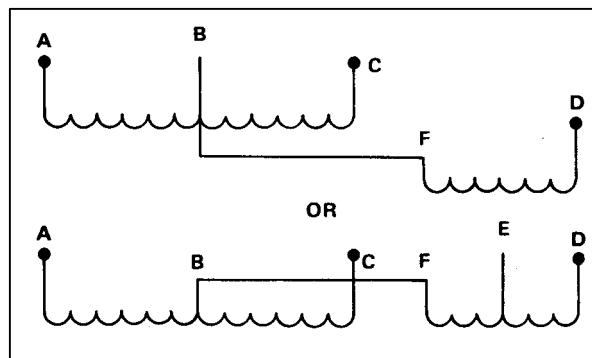

Fig. 16 Teaser Winding
b. Teaser Winding, See Fig. 16